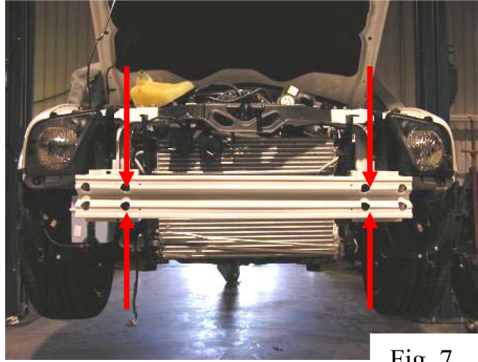

Fig. 7
- 18) Using a 13mm deep well socket, remove the two bolts closest to center on each side that attach the front bumper to the frame (Fig. 7).
- 22) Install the four supplied 8mm x 50mm long bolts and washers in place of the bolts removed in step 17. Screw them in until they protrude about 1/4" from the opposite side (Fig. 7).